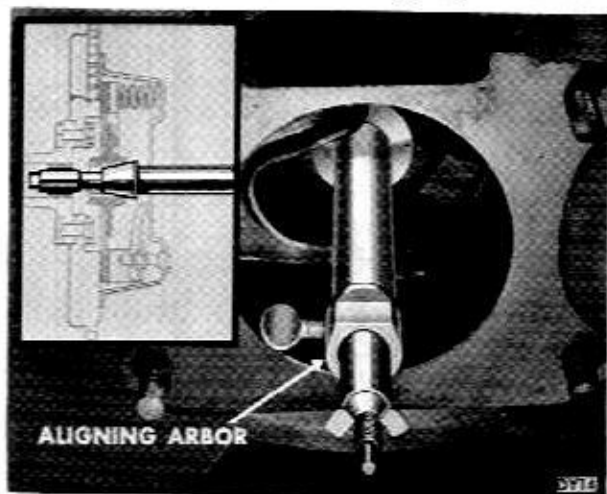

Fig. 8—Clutch Disc Aligning Arbor
(1) Lubricate transmission drive pinion pilot bushing in end of crankshaft with about one-half teaspoon of grease. Place lubricant in radius back of bushing.
(2) Clean the surfaces of flywheel and pressure plate thoroughly with fine sandpaper or crocus cloth, and make certain that all oil or grease has been removed.
(3) Hold clutch disc, pressure plate and cover in mounting position, with springs on disc damper facing away from the flywheel. **Do not touch disc facing, as contamination may result in clutch chatter.** Insert a Clutch Disc Aligning Arbor through hub of disc and into bushing (Fig. 8). If an Arbor is not available, use a spare transmission drive pinion.